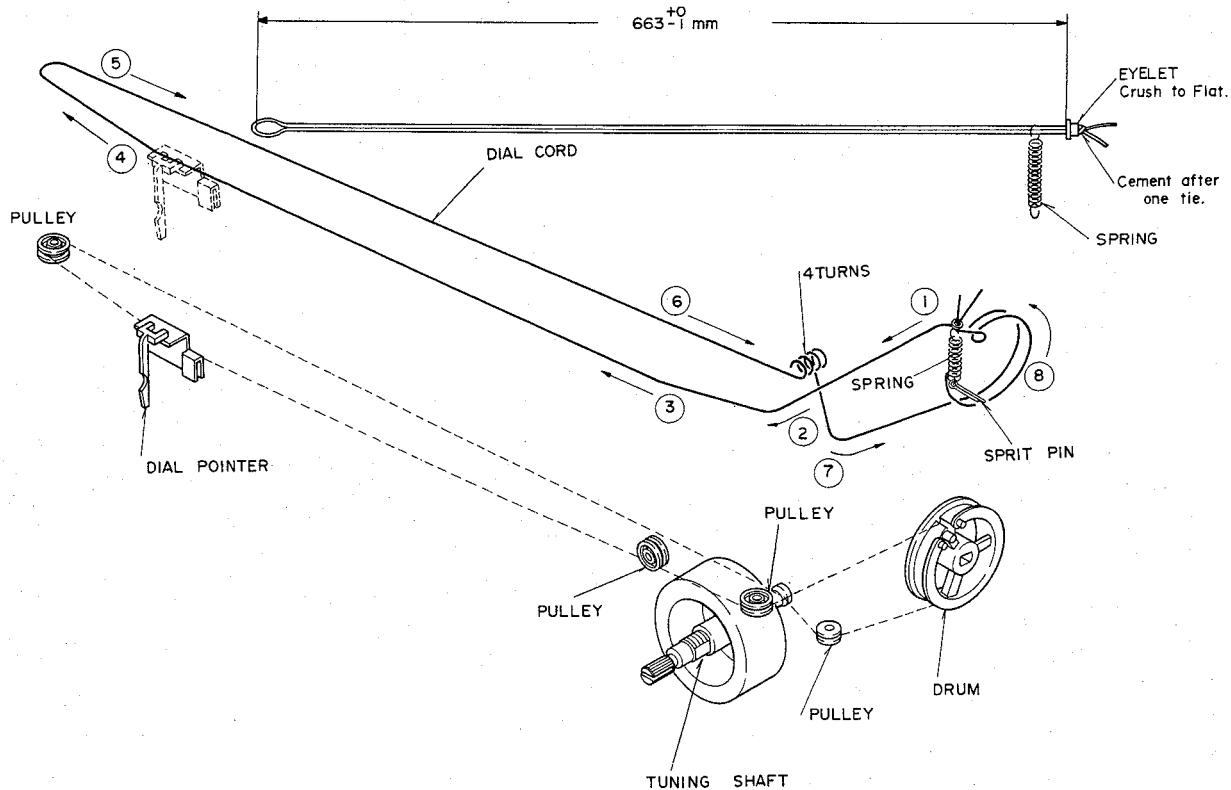

Figure 3
(1) Set the tuning capacitor to the maximum capacitance (fully counterclockwise position).
(2) Wind the dial cord in the numerical sequence as shown in Figure 3.